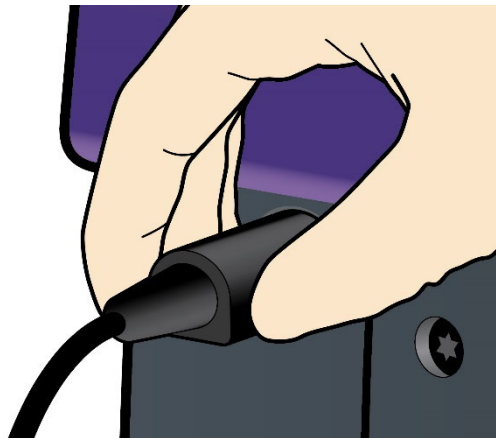

Figure 5
- To unplug the unit, hold firmly to the instrument connector (**Figure 5**) and unplug from the instrument port. Do not unplug by pulling on the cord. Pulling on the cord will cause the instrument connector to loosen and not connect to the instrument correctly.